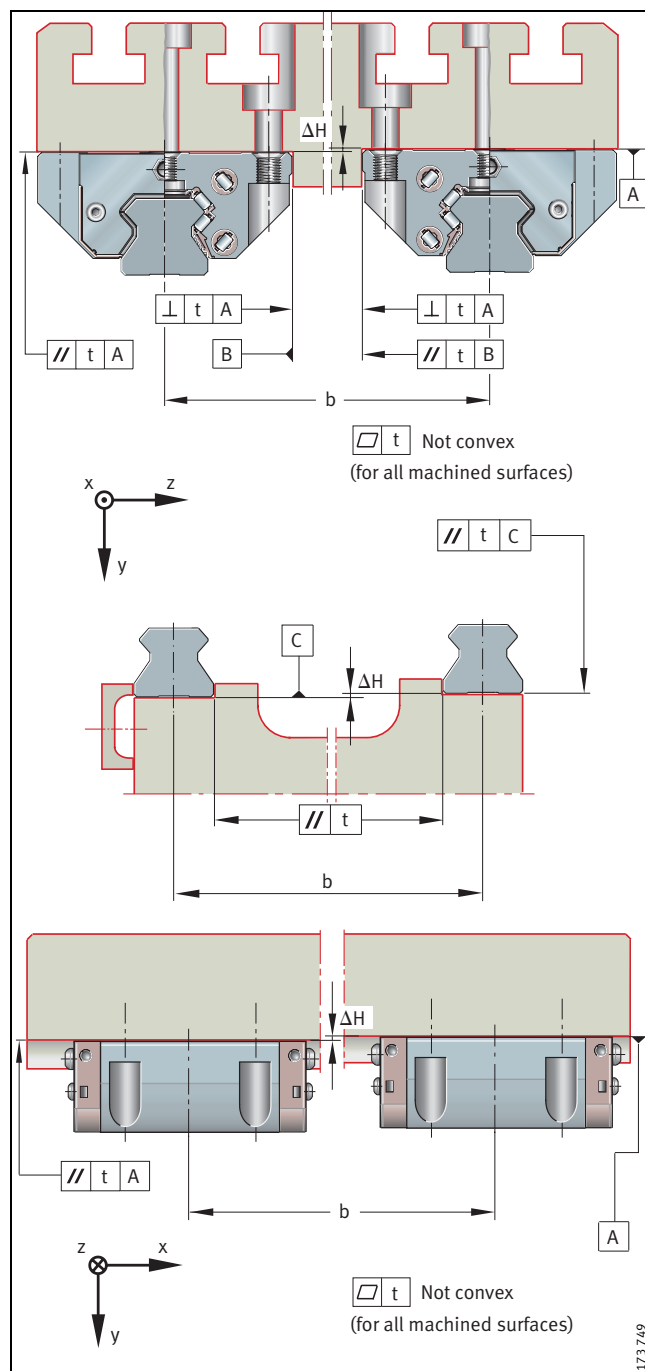

Figure 6 · Tolerances of mounting surfaces and parallelism of mounted guideways
- the tolerances in Figure 6 and Table 5 must be adhered to
The permissible values for  $\Delta H$  (Figure 6) are given by the formula below. If larger deviations are present, please consult the Schaeffler engineering service.
For guideways arranged parallel to each other, the parallelism value  $t$  given in Figure 6 and Table 5 should be adhered to.